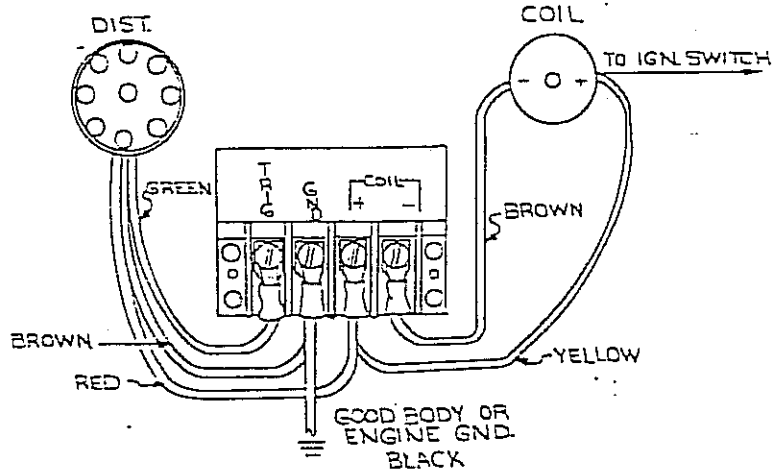

FIGURE 5
- Connect brown wire (Coil-) on the Hyfire box to the negative (-) terminal on the Coil. Connect yellow wire (Coil+) on the Hyfire box to the positive (+) terminal on the Coil. Try to route wires close to existing wires and away from hot engine components. (See figure 5.)
- Connect red wire from Unilite to the Coil+ terminal on the Hyfire box. (See figure 5.)
- Connect green wire from Unilite to the trigger terminal (Trig) on the Hyfire box. At this point the green wire that was installed in step 4 can be removed and discarded. (See figure 5.)
- Connect black wire (GND) on Hyfire box to a good body or engine ground point. This wire may also be connected directly to the negative (-) battery terminal. The brown wire from the Unilite can be connected to the GND terminal on the Hyfire box. (See figure 5.)